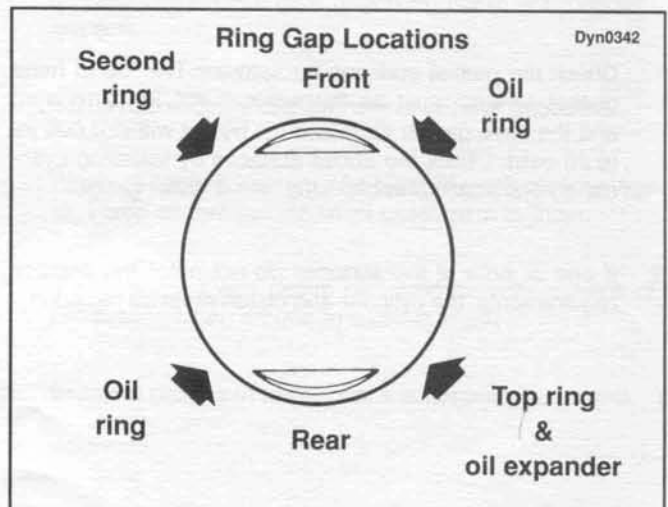

Figure 3-38. Position Ring Gaps
- See Figure 3-38. Be sure the piston ring end gaps are properly positioned.
- See Figure 3-38. Apply engine oil to the piston grooves. Install the new rings on the piston making sure the dot on the second compression ring is facing up. Stagger the ring gaps.